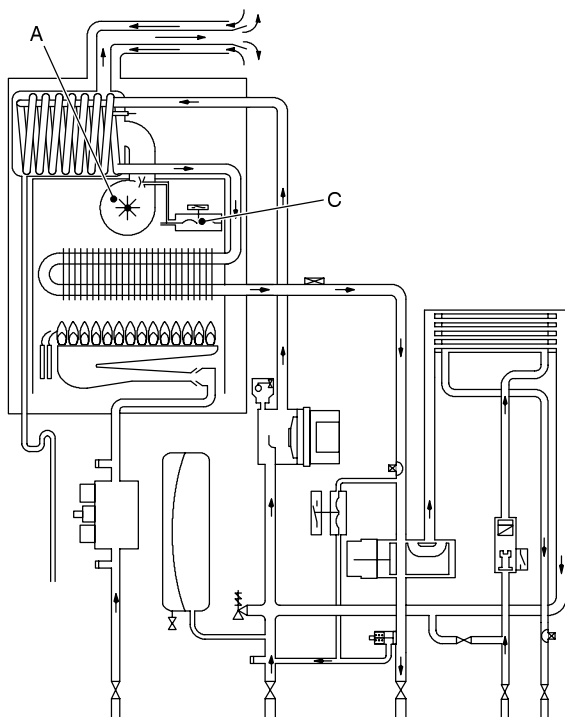
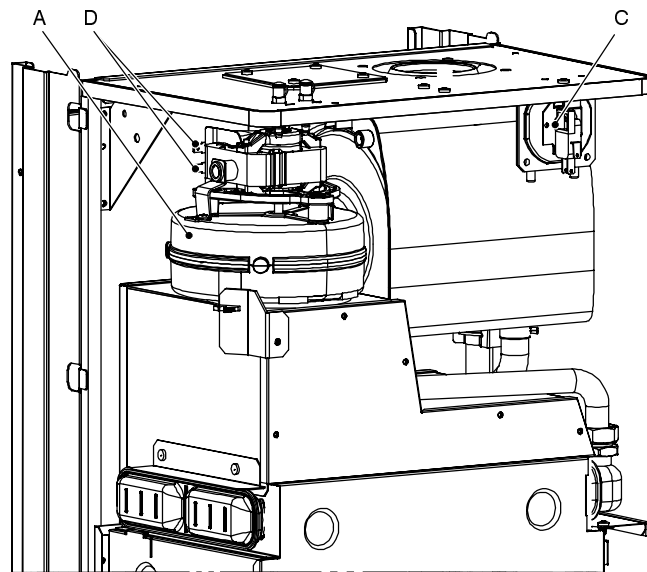
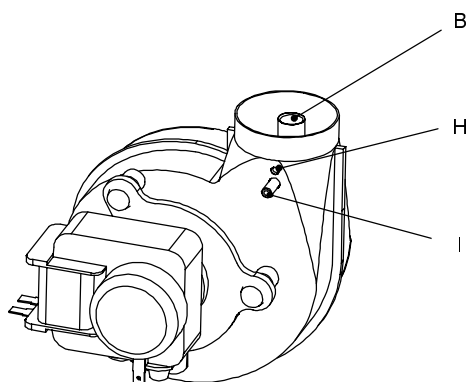

Fig. 73
Fig. 74
Fig. 79
The function of the Fan A (Fig. 73 and Fig. 74) is to force the products of combustion through the condensing heat exchanger to the outside air via the flue system.
Its correct functioning is controlled by means of a system incorporating a built-in venturi device (B in Fig. 79) and an Air pressure switch C (Fig. 73 and Fig. 74).
- 2 Disconnect the connectors D (Fig. 74) and measure the electrical resistance of the motor that has to be about:
- 2 Disconnect the connectors *D* and the earth connection *E* (Fig. 74).